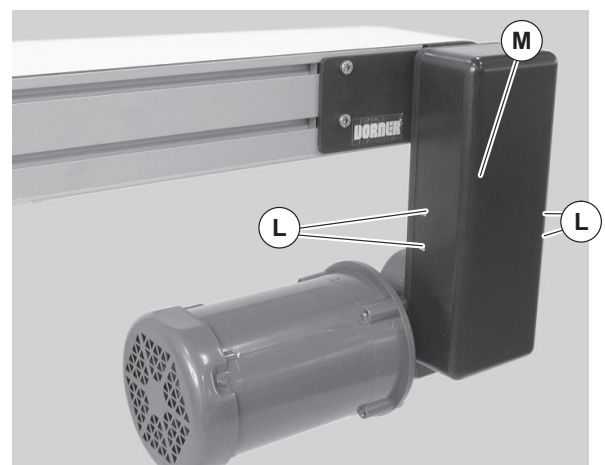

Figure 18
- a. Remove four (4) screws (Figure 18, item L) and cover (M).